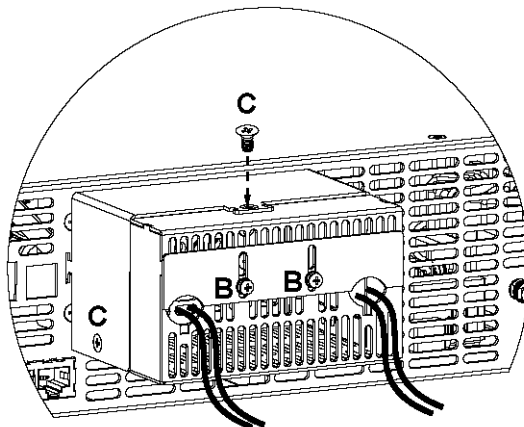

Fig. 3-10: Enclosure assembly
- Assemble the enclosure bottom cover to its place, as shown in Fig. 3-10, using screws "C", 3 places (tightening torque 4.8-5.3 Lb-inch).